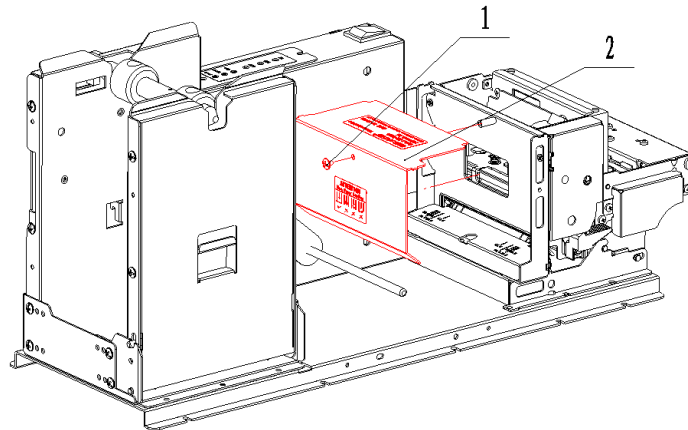

Fig. 5.2-1 Cleaning paper end sensor
2. Screw down one M3-4 screw shown in Fig.5.2-1 with a cross screw driver and dismantle the lines protection board shown in Fig.5.2-1;